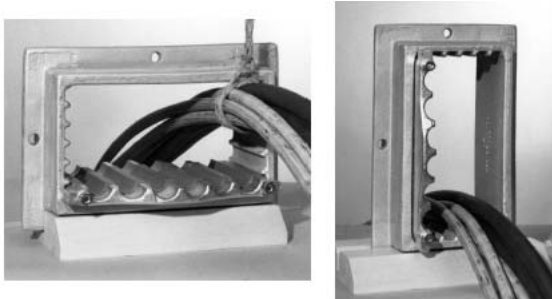

Figure 6.
- Slide first section of TWB Sealing Block Assembly into frame keyways, beginning at one end or bottom (or top) of frame. Be certain that flat side of this assembly is against inside surface of frame (see Figure 6).